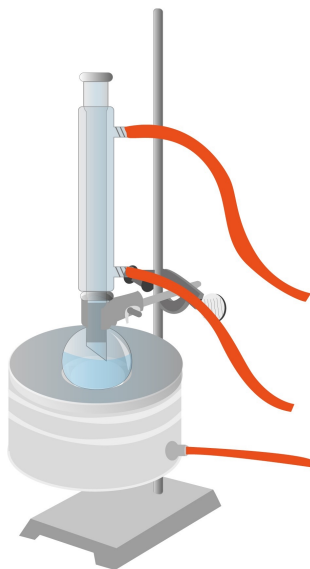

Figure 4 General reflux set-up with a water condenser open to air
1. Obtain the glassware to set up a reflux apparatus, consisting of a 25-mL round-bottom flask, a water-cooled condenser, and a drying tube packed loosely with sodium sulfate, as shown in the general reflux set-up in Figure 4 but with the drying tube inserted at the top. You will heat the apparatus using a heating mantle, aluminum block, or sand bath, as directed by your instructor.